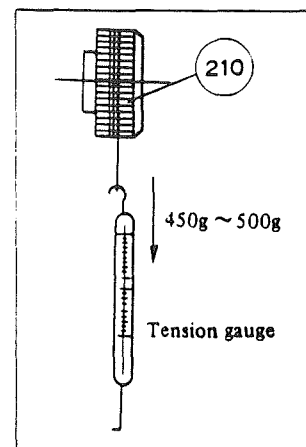

Fig. 38
(Measuring procedure: Fig. 38)
- 1) Referring to Reassembly Procedure (P. 32), insert right fine focus knob (101) into fine focus shaft (111) (beforehand, place set screw (142A) into (101)). Pushing the left and right fine focus knobs inwards, fix them in such positions by means of (142A), that a torque of 30g ~ 40g is obtained. (Measuring procedure: Fig. 38).
- 2) Make sure of no thrust slack felt by touching with the finger and no seizure between (101) and right coarse focus knob (103). Also, check for smooth turning of the fine and coarse focus knobs.